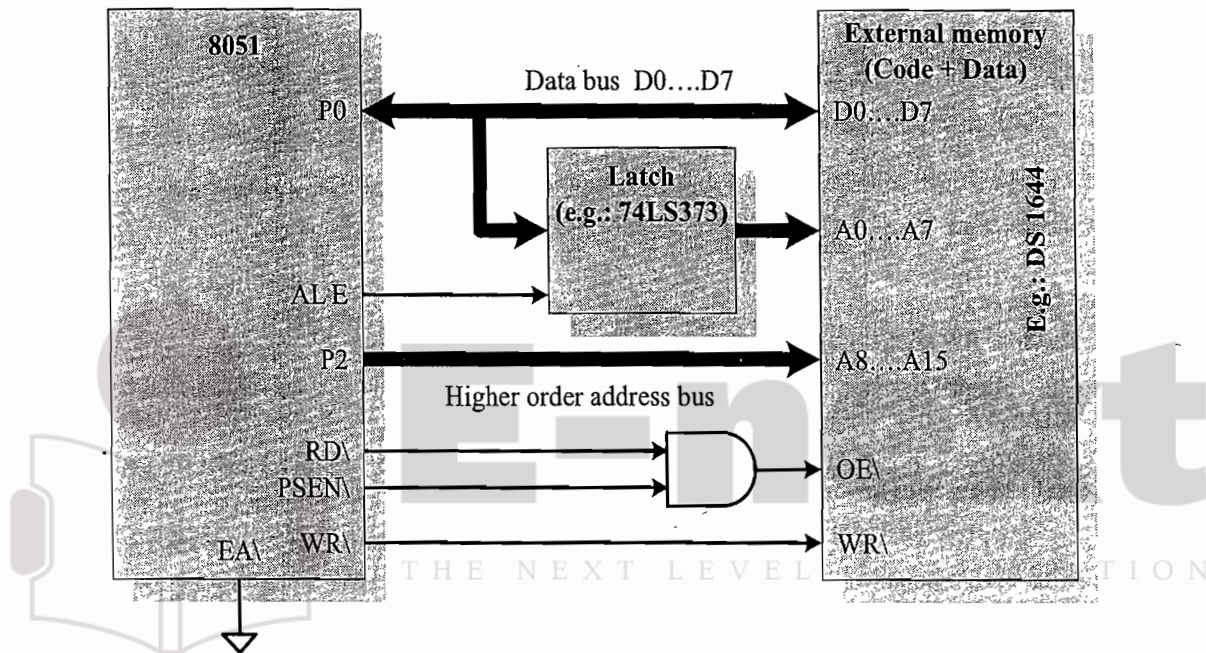

Fig. 5.6 Combining Code memory and Data memory
5.3.2.4 The Von-Neumann Memory Model for 8051 The code memory and data memory of 8051 can be combined together to give the Von-Neumann architectural benefit for 8051. A single memory chip with read/write option can be used for this. The program memory can be allocated to the lower memory space starting from 0000H and data memory can be assigned to some other specific area after the code memory. For program memory fetching and data memory read operations combine the PSEN\ and RD\ signals using an AND gate and connect it to the Output Enable (OE\) signal of the memory chip as shown in Fig. 5.6.